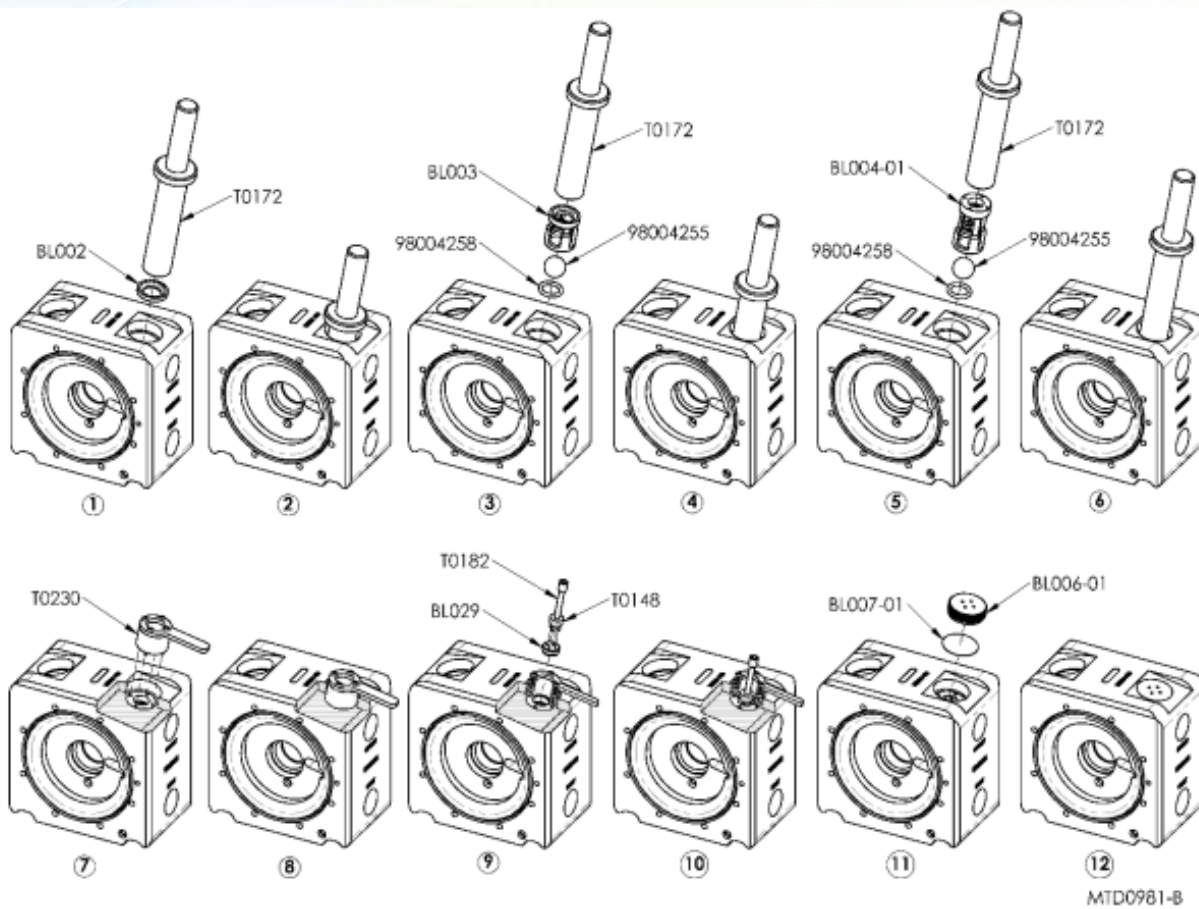

Figure 4-8
- Press suction sleeve (BL003) into check bore of pump body using sleeve insertion tool (T0172) as shown in Figure 4-8.